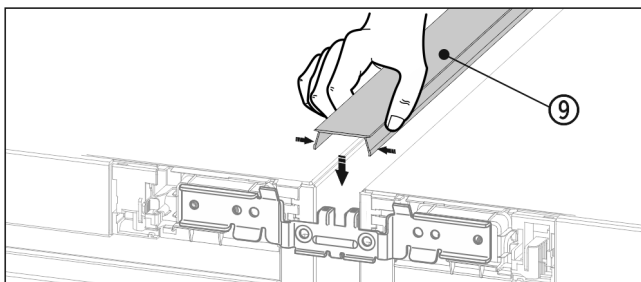

Fig. 26
- ▶ On the top press the short cover strip Fig. 26 (9) into the horizontal gap.